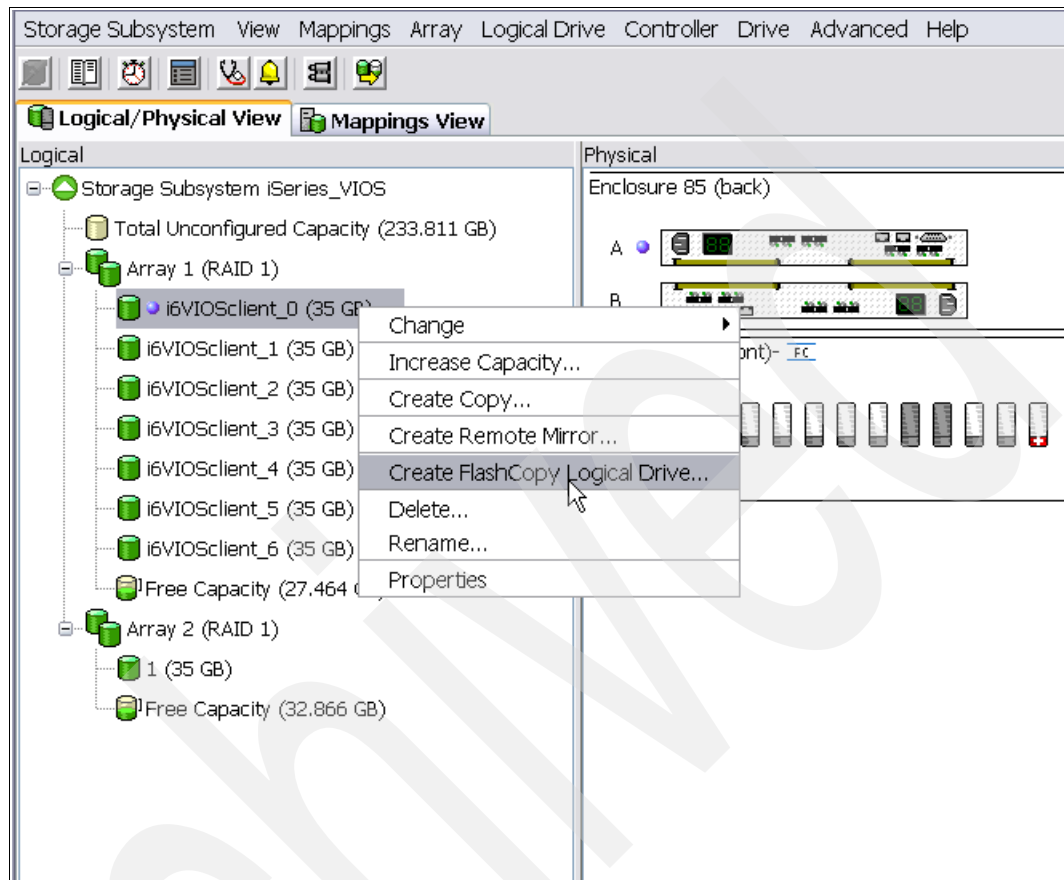

Figure 8-4 Create FlashCopy Logical Drive
5. Right-click the logical drive for IBM i and select **Create FlashCopy logical drive** from the pull-down, as shown in Figure 8-4. This starts the wizard to create the FlashCopy logical drive.